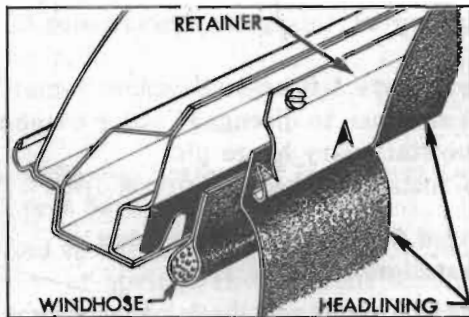

Figure 13-47—Headlining Retainer on Roof Rail
8. Starting at the front corners, disengage the headlining from its retainers along both side roof rails. By loosening retainer screws along both side roof rails progressively as headlining is loosened, it is easier to disengage the headlining from the retainer. See figure 13-47.
6. Tighten retainers to roof side rails then carefully tuck the edges of headlining up between the retainers and the windhoose, using Headlining Insertor J 2772. See figures 13-47 and 13-48.